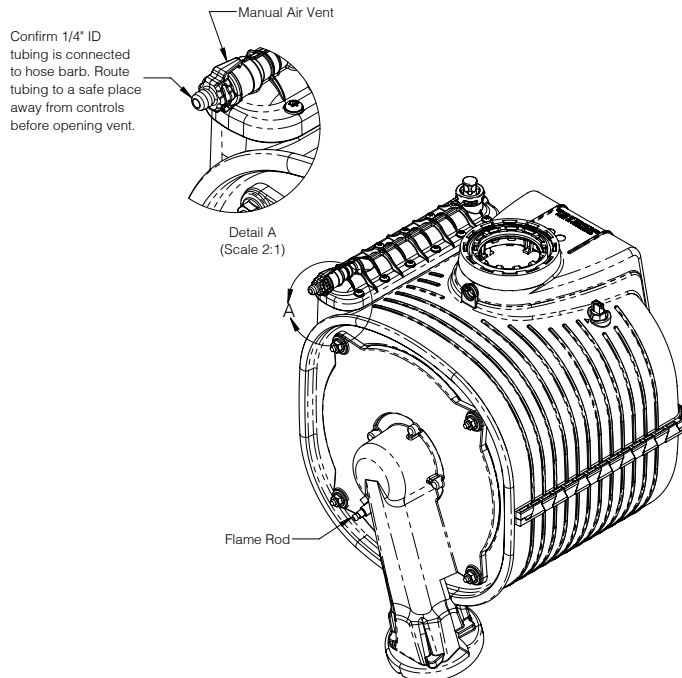

Figure 15-1: Manual Air Vent Location
4. Eliminate air in boiler by bleeding from heat exchanger manual air vent on top left side of heat exchanger (Figure 15-1).
- B. Measure carbon monoxide (CO) level after 5 minutes of operation above 50% firing rate. This can be done by providing DHW demand. Ensure door is sealed before taking combustion readings.
11. Perform a check of ignition safety shut-off device. With burner firing, carefully unplug black ignitor/ flame sensor wire at burner door using a pair of insulated pliers (Figure 15-1). Burner should shut off immediately.